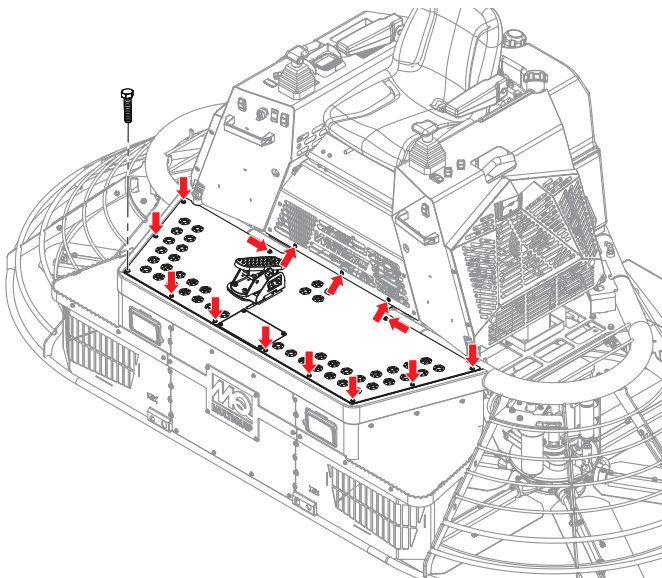

Figure 3. Foot Platform Hardware Removal
1. Using a 5/16" socket, remove and set aside the 15 screws securing the foot platform to the frame (Figure 3).